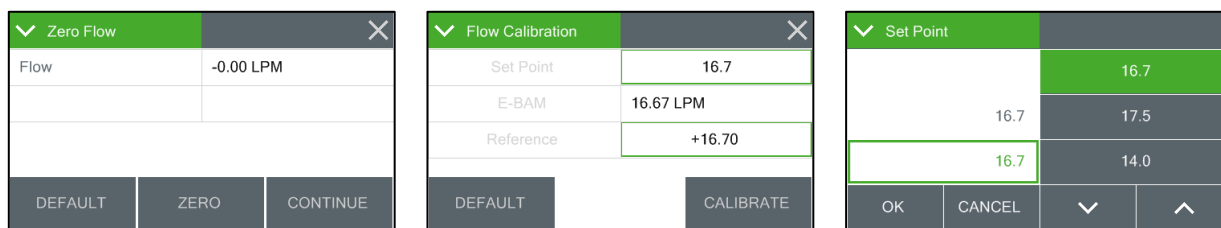

Figure 5-9 Flow Calibration Screens
12. Return to the TEST menu and go to the Flow Calibration screen shown in Figure 5-9 Flow Calibration ScreensFigure 5-9.